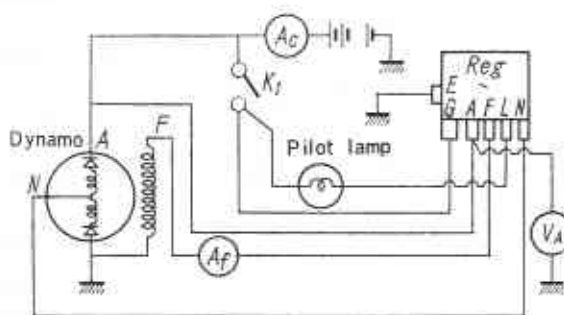

Fig. EE-34 Testing Method of Setting Voltage
2. Connect a voltmeter and an ammeter and other instruments as shown in Fig. EE-34.